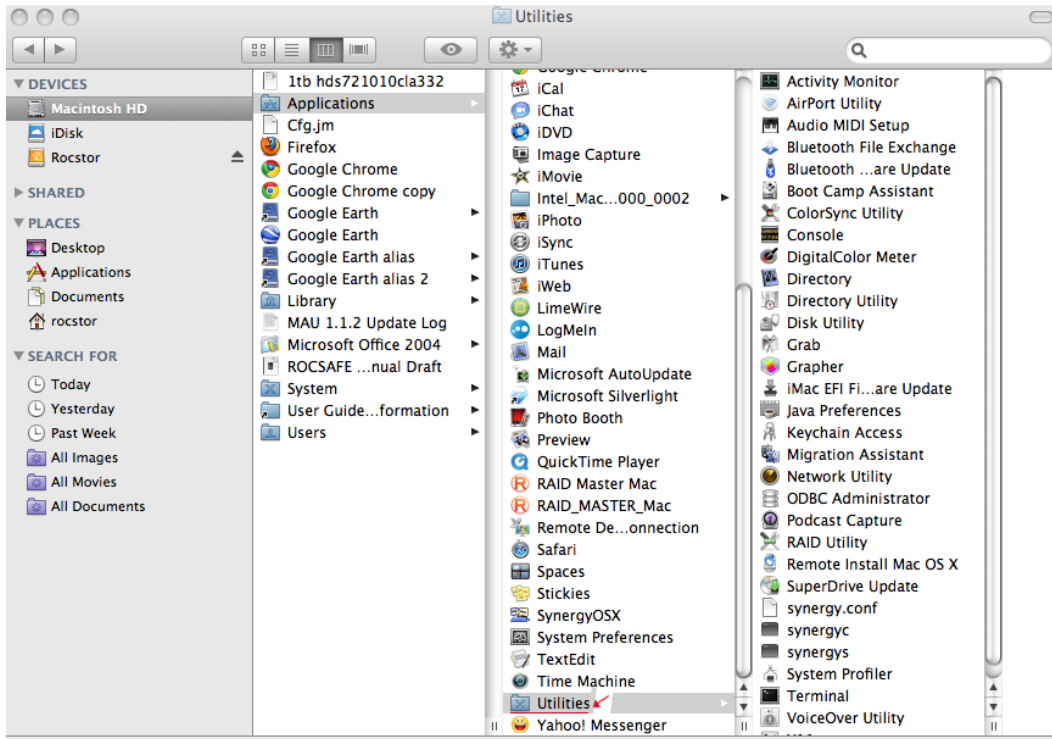

Figure 3.0
5. In the “Applications” menu, click on the “Utilities” icon (figure 3.0.)